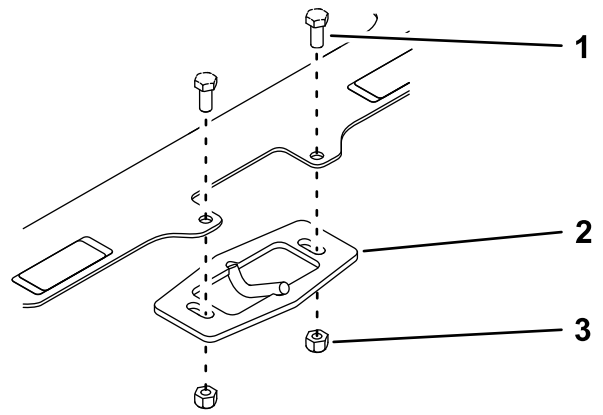

Figure 5
4. Remove and retain the 2 bolts (5/16 x 3/4 inch), 2 nuts (5/16 inch), and hood latch from the front screen (Figure 5).
4. Install the hood latch to the kit front screen as shown in Figure 5.